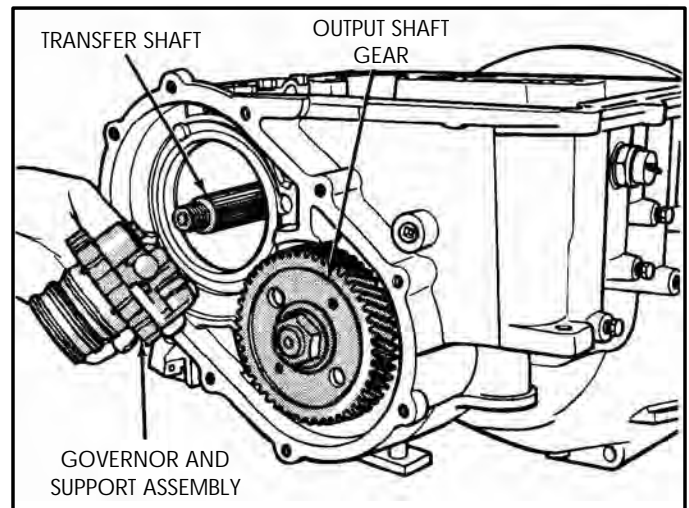

Figure 198
14. Install the pre-assembled governor and support assembly, as shown in Figure 198.